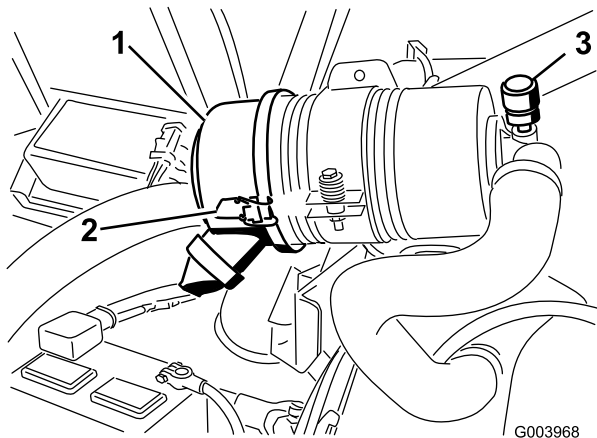

Figure 54
Service the air-cleaner filter only when the service indicator (Figure 54) requires it. Changing the air filter before it is necessary only increases the chance of dirt entering the engine when the filter is removed.
1. Release the latches securing the air-cleaner cover to the air-cleaner body (Figure 54).